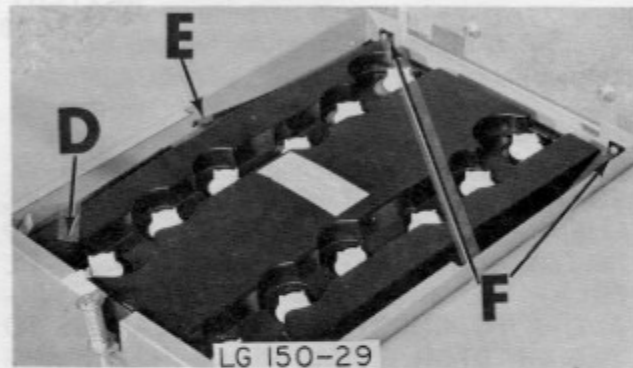

Figure 31
7. Place the plastic cover "D", Fig. 31 over the batteries and **inside** the bag, making sure the battery cables go through the side slot of the cover.
8. Place the hold-down clamps "E", Fig. 31 along the sides of the battery cover, but outside of the bag so that the bag is held captive **between** the clamps and the cover.
9. Secure each clamp with a screw, nut, and lockwasher at each end at "F", Fig. 31.